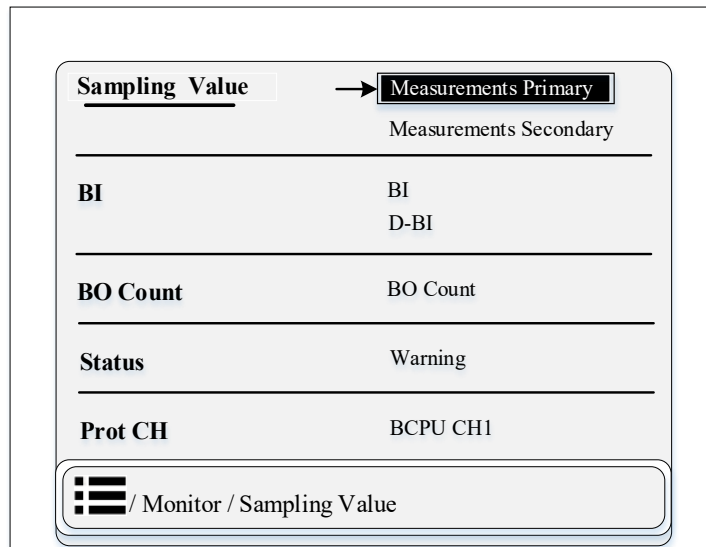

Figure 7.3.7 Overview Display of Monitoring Information Sub-functions
This section divided into five sub-parts and describe the information of real time monitoring data of PRS-753 line protection. This section only provides the Sampling Value, BI, BO Count, Status, Prot Ch data information. In this section user can easily access the real-time monitoring data view of relay through arrow keys. The overview display of monitoring information are shown in below figure 7.3.7.
This section divided into two sub-parts and describe the information of binary input (BI) of this IED seen in the above figure 7.3.7. This section only displays all the binary input data. User can access this function through the following path: “Monitor > BI”.